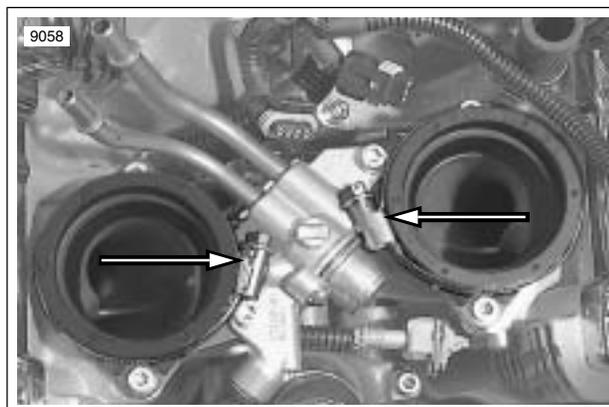

Figure 1-59. Intake Clamps, Throttle Body Removed
- See Figure 1-59. Loosen clamps at each intake and lift throttle body straight up.